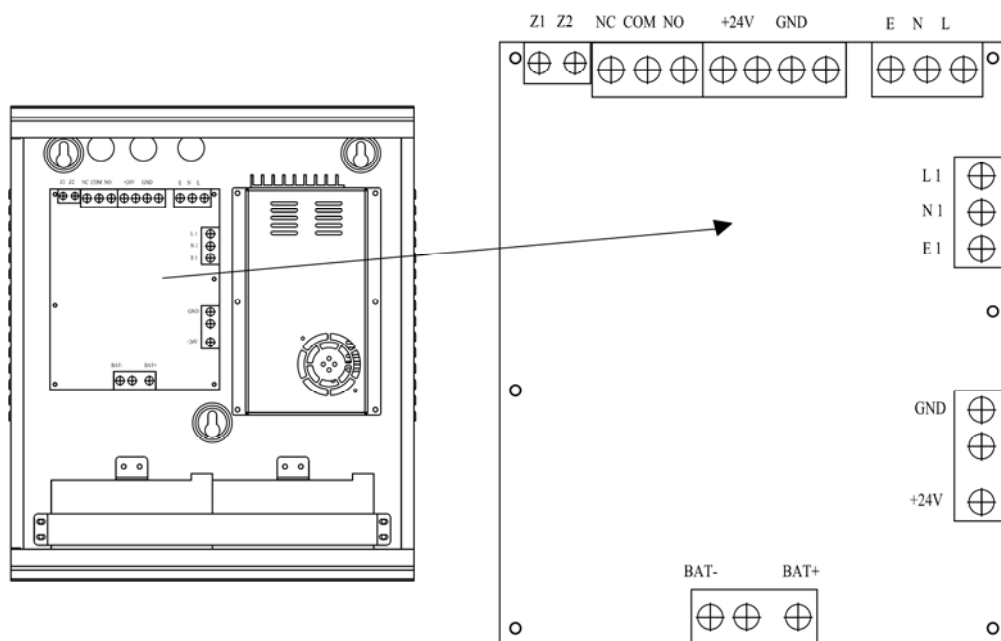

Figure 1: Schematic diagram of external terminals
3. It will need to access the wire through the hole on the back side or knock off power supply cover, in accordance with the following descriptions of terminal connection (Figure 1).